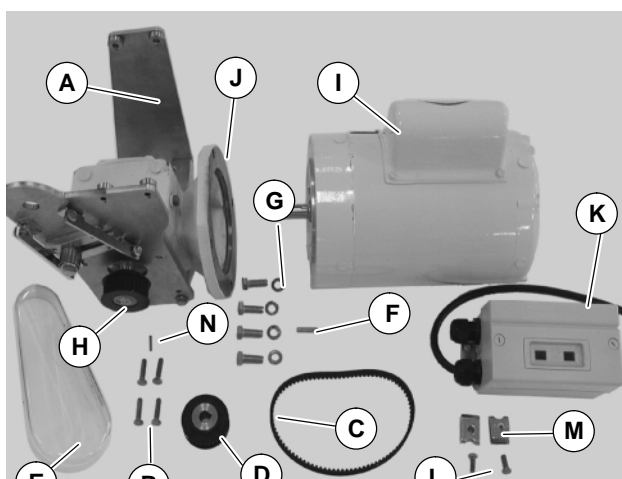

Figure 2
1. Gather components (Figure 2)